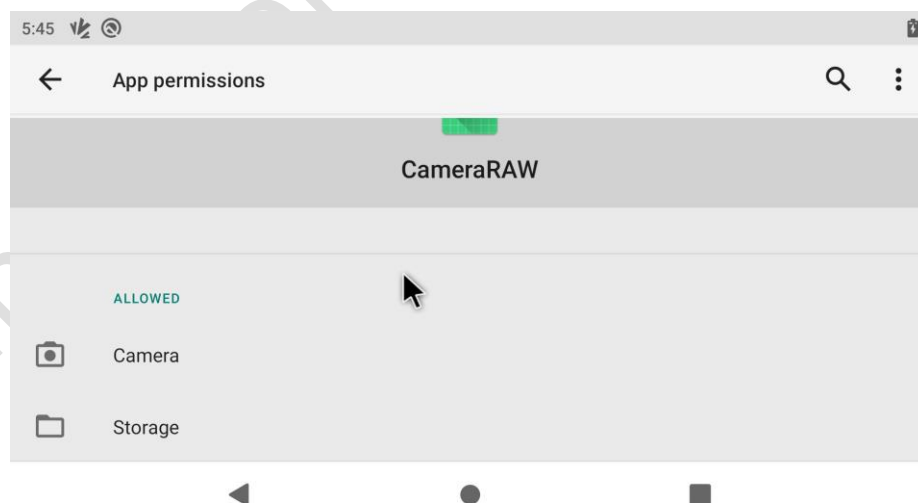

Figure 3-27. App Permissions
- b) Click **Camera** or **Storage** in Figure 3-27 to perform permission.